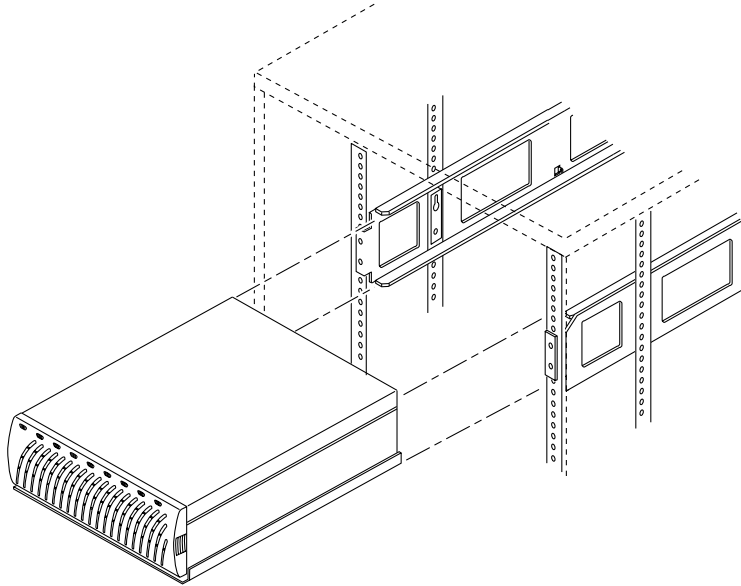

FIGURE 2-7 Aligning the Disk Tray Chassis and Baseplate With the Side Rails
- 2. Line up the chassis with the mating side rails in the cabinet (FIGURE 2-7).**